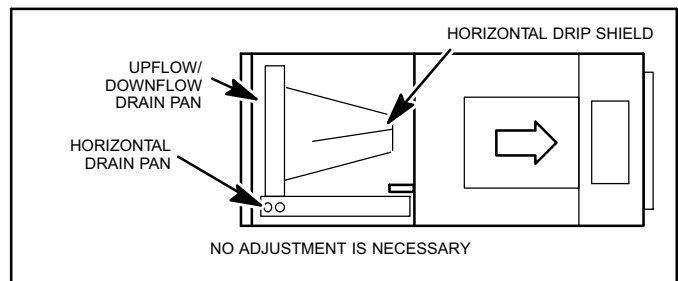

Figure 2. Right-Hand Discharge Configuration
2. No further adjustment is necessary. Set unit so that it is sloped 1/4 inch toward the drain pan end of the unit as illustrate in figure 2 on page 4.